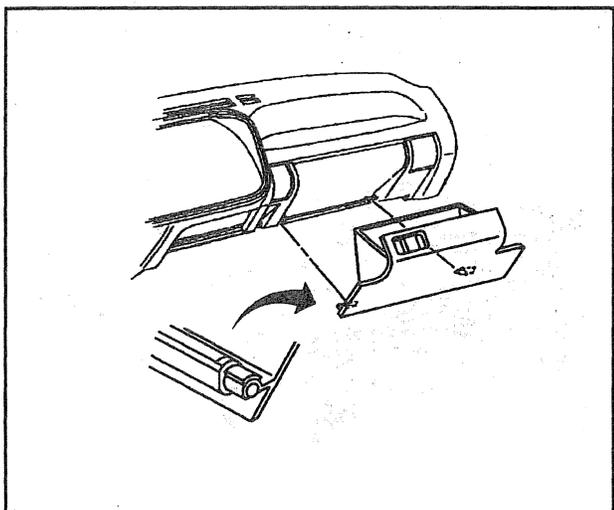

Figure 12—I/P Storage Compartment
15. I/P storage compartment (figure 12).